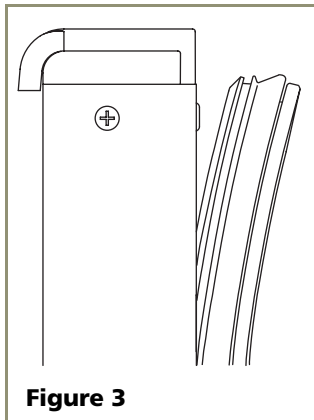

Figure 3
3. Pull door gasket out of the groove (top edge of door only). Start in the middle and pull outward, moving toward the edge (see **Figure 3**). This may take some force.